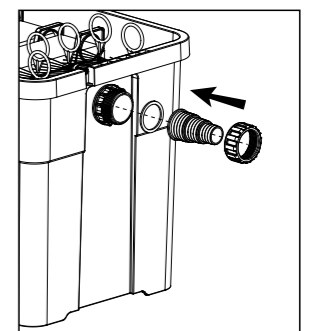

Figure 6
- 2) Attach the hose tail to the water intake on the filter body by the gland nut. Please make sure to fit the gasket B into the gland nut before screwing the gland nut on (Referring to **Figure 6**).